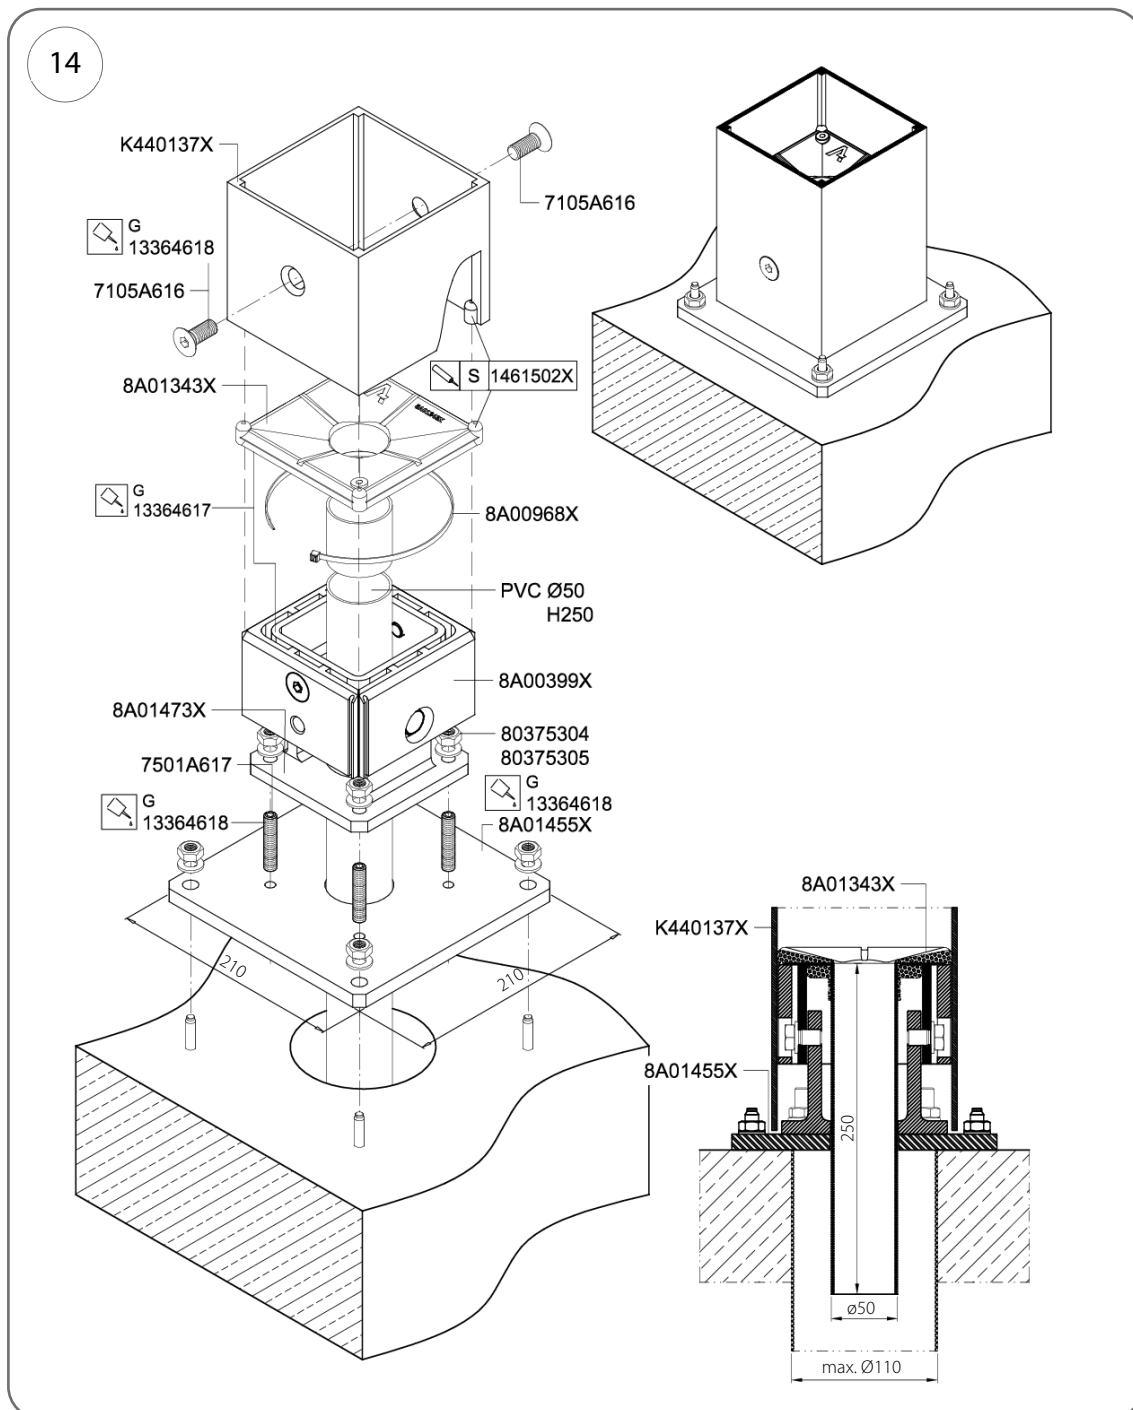

Fig. 14
6. Fit the K440137X pergola post onto the bracket and secure it to the bracket using 2 Allen screws (cat. no. 7105A616, M12x30 mm); coat the screws with thread sealant (cat. no. 13364618) (Fig. 14).